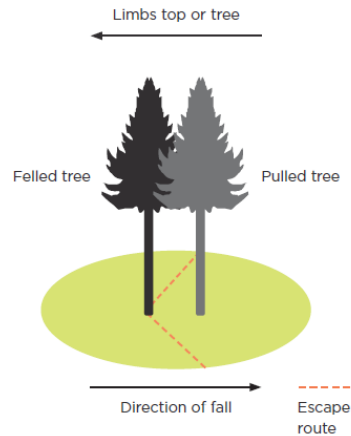

Figure 26: Danger area where the felled tree pulls another with it as it falls
- 21.15.4 The danger zone in this hazard extends from the felled tree to the tree behind with width equal to the width of the tree behind (Figure 26). This hazard is relative to the direction of fall. This emphasises the importance of directional felling techniques and proper use of scarf and back cuts.